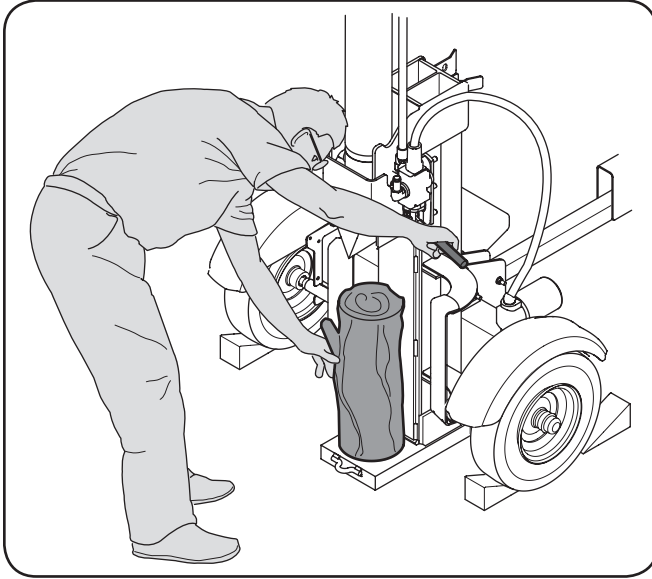

Figure 5-2
- c. Stand in front of the log splitter to operate the control handle and to stabilize the log. See Fig. 5-2.